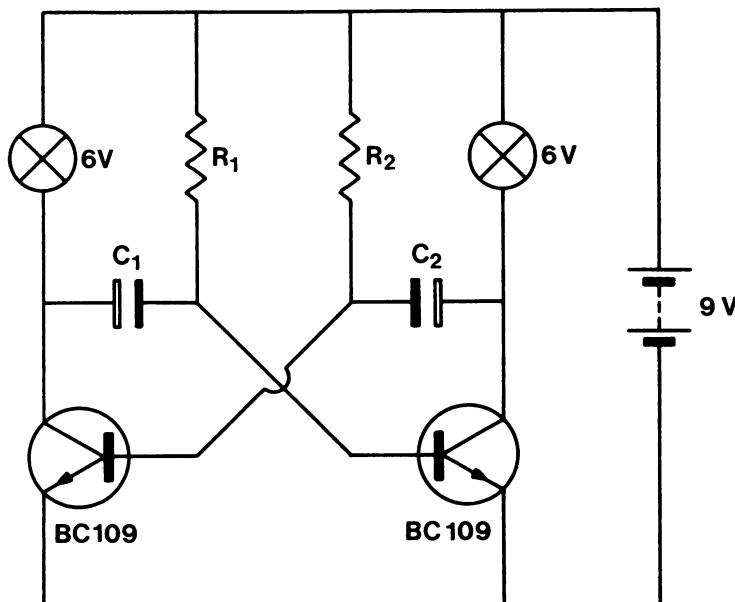

FIG. 1.33
1. If the bistable circuit of Circuit 12 is modified to include the resistors  $R_1$  and  $R_2$  and capacitors  $C_1$  and  $C_2$  as shown in Fig. 1.33, a very useful circuit is obtained. This is known as the *multivibrator*. Build the multivibrator circuit shown above and design the layout of this in such a way that resistors  $R_1$  and  $R_2$  can be chosen to be either 1 k $\Omega$  or 10 k $\Omega$  and capacitors  $C_1$  and  $C_2$ , 250  $\mu$ F (25 V) or 50  $\mu$ F (25 V). When the circuit is working it should be found that the bulbs switch on and off alternately at a regular rate and when the values of  $R$  or  $C$  are changed the flashing rate also changes.